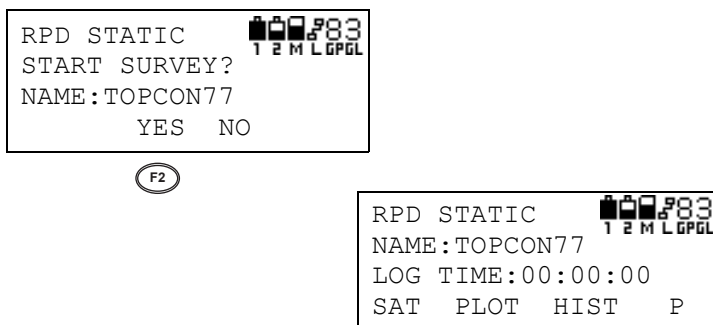

Figure 3-41. Press F2 to Begin Observation
10. Press **F2** (YES). Observation will begin (Figure 3-41).